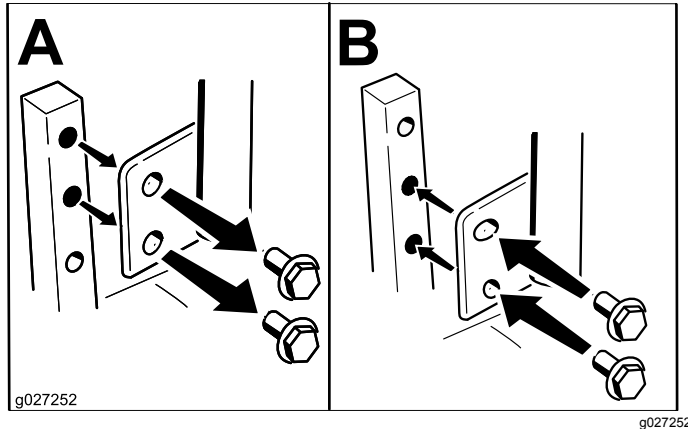

Figure 14
You can adjust the motion-control levers higher or lower for maximum comfort (Figure 14).
2. Loosen the lower bolt just enough to pivot the control lever forward or rearward (Figure 14).